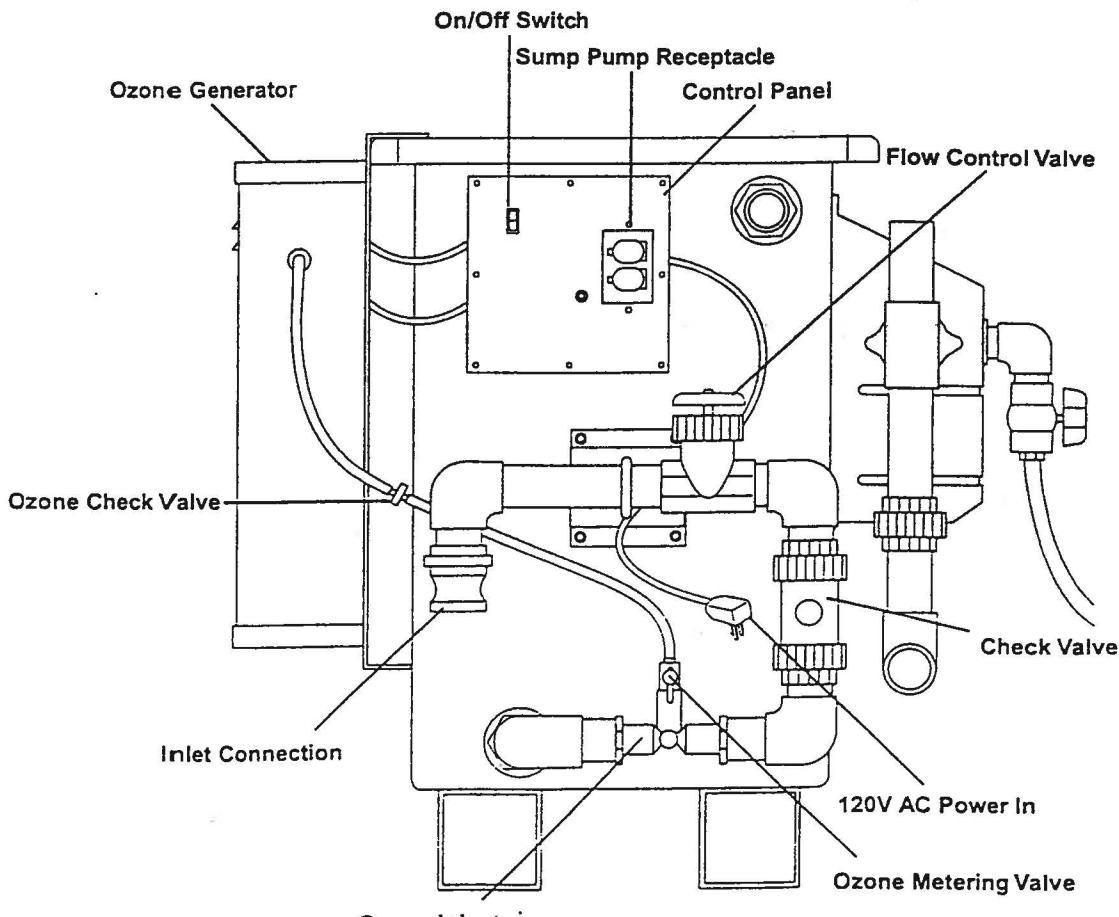

Figure 1
- Turn the sump pump switch on the Alpha to "ON" (see Figures 1, 2 & 3).